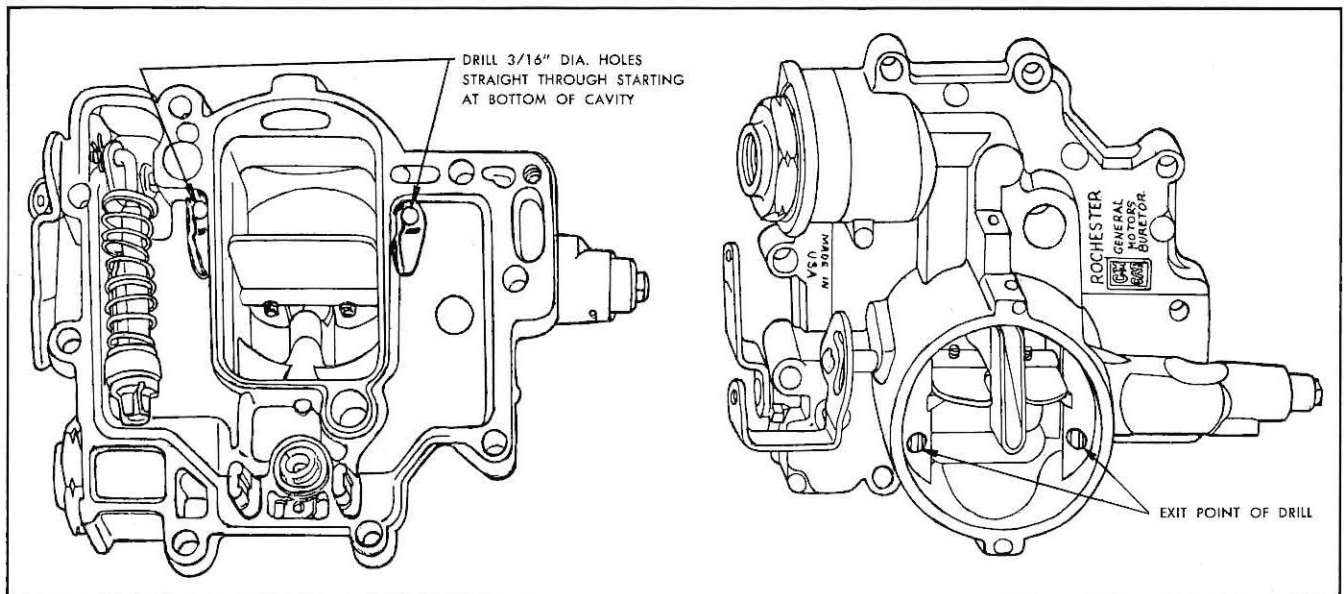

Fig. 1—1961-62 Corvair Carburetor Modification to Improve Hot Idle
3. Locate and drill two $\frac{3}{16}$ " diameter holes in each bowl cover, as shown in Figure 1. Holes must be drilled straight through to break out inside the air horn as illustrated.